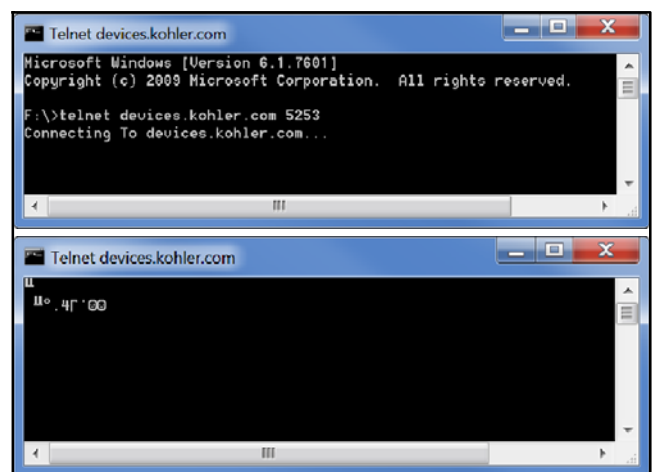

Figure 3-8 Telnet Command to Confirm OnCue® Plus Server Connection
3. If the connection was successfully established, you will see the symbols shown in Figure 3-8.